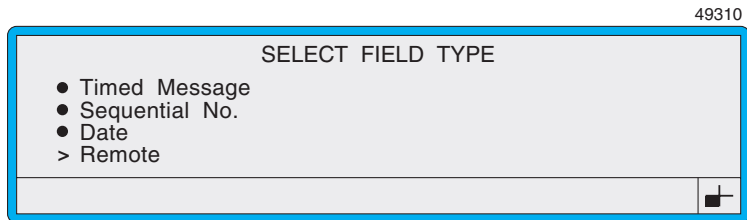

Figure 4-34 Select Field Type: Remote
3. Scroll to the **Remote** option (as shown in Figure 4-34 above), then press the [enter] key.